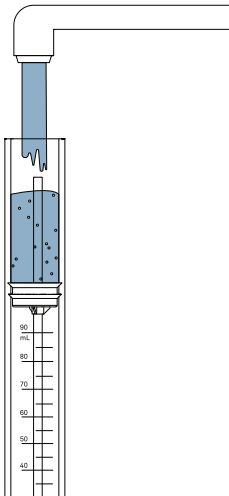

Figure 1 Fill mariotte chamber
- 2. Fill the mariotte chamber three-quarters full with water (Figure 1).